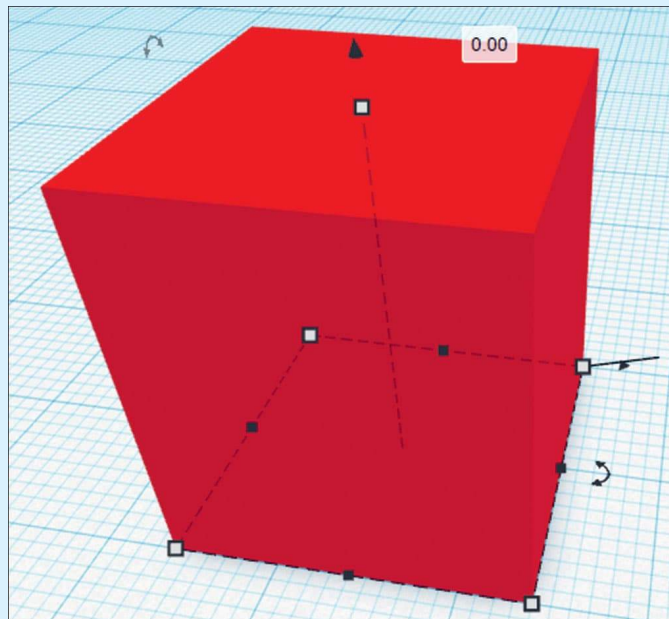

FIG. 1: To ensure that the bottom of the print item is touching the printing bed, click and drag the black arrowhead to 0.
- Ensure the bottom surface is touching the printing bed; if not, click the black arrowhead and drag it down till it indicates 0 mm (fig. 1).